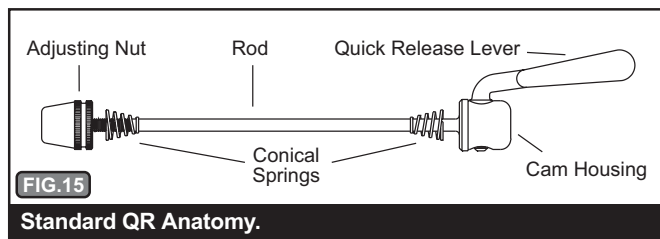

FIG. 15
6. YAK & IBEX WHEEL INSTALLATION USING QR (FIG. 15): **NOTE:** Follow all instructions exactly. If you are unsure how to operate the quick release, please consult your bicycle dealer or contact BOB. Fig. 15 shows the anatomy of the quick release.